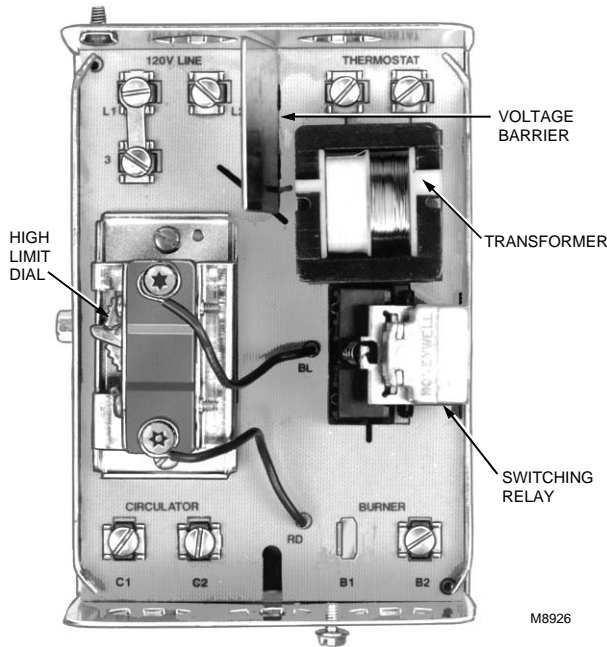

Fig. 2. Internal view of L8148A Aquasta® Relay.
- L8148A Aquastat™ Relay, without zone control terminals, without well and spud. See Fig. 2.